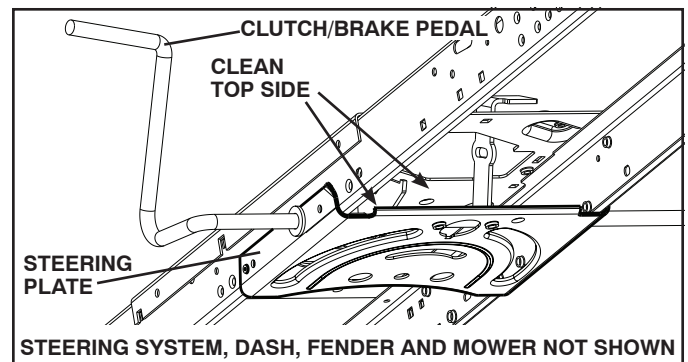

Fig. 38
- Clean debris from steering plate. Debris can restrict clutch/brake pedal shaft movement, causing belt slip and loss of drive. See Fig. 38